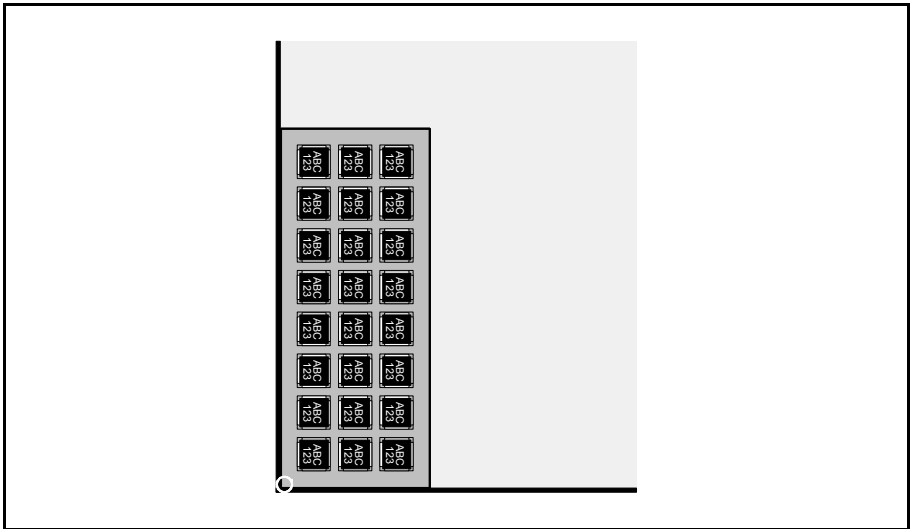
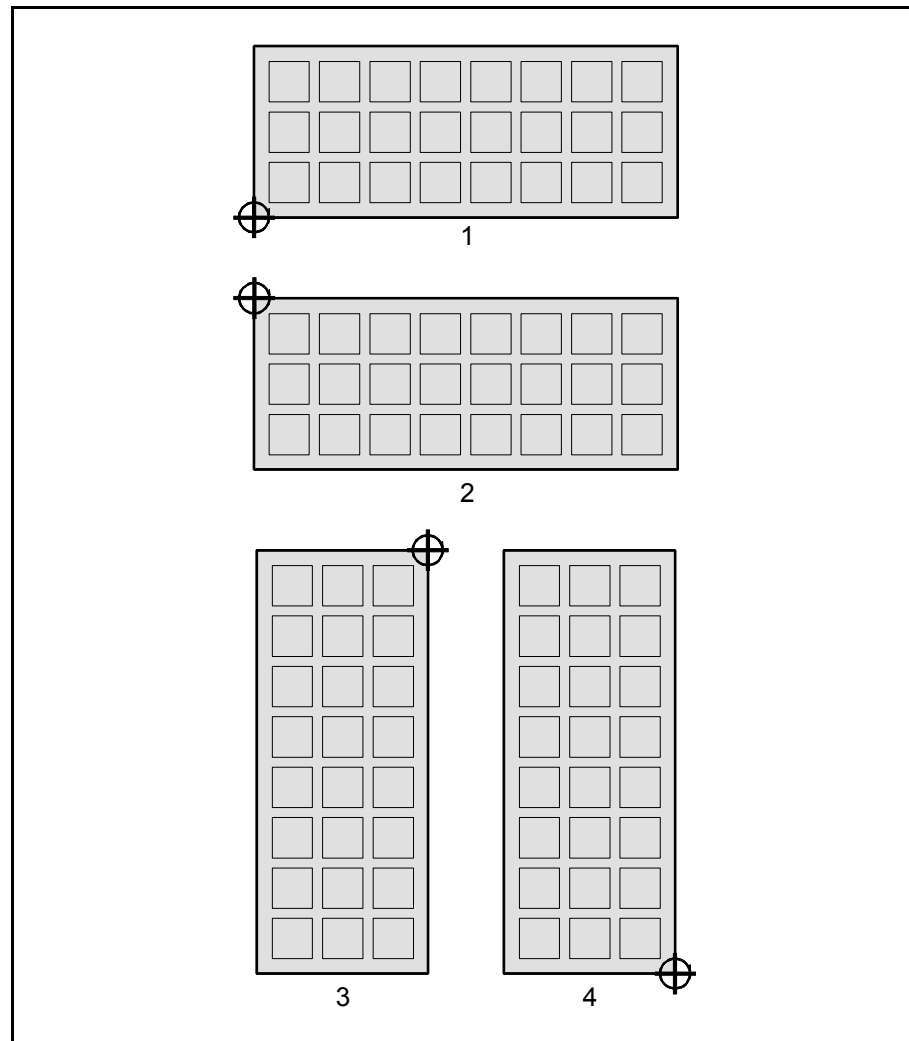

Figure 5-12. Tray at the lower left table corner
Figure 5-13. Tray corner at position point
The system must, however, get information about which corner you have placed at the defined point. Figure 5-12 shows the lower left tray corner placed at the lower left assembly table corner. Figure 5-13 shows the four corner options: *Lower left* (1), *Upper left* (2), *Upper right* (3), and *Lower right* (4).
As shown in Figure 5-13 the lower left corner is always the lower left corner, no matter how the tray is turned, and the upper left corner is always the upper left corner, no matter how the tray is turned.